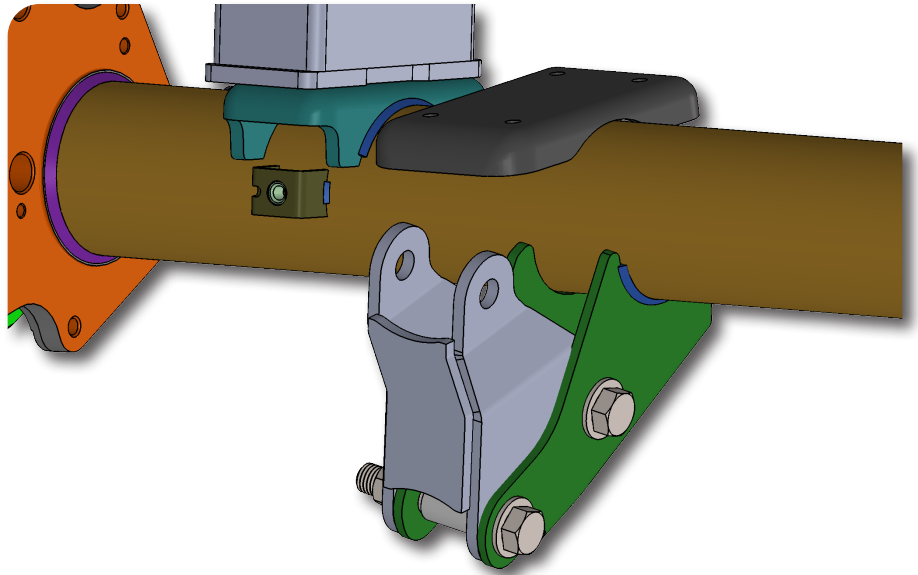

Figure 7
13. **Denali Models (ARC Models) Only:** Install the provided rear shock relocation bracket with the provided sleeves and 9/16" hardware in the factory shock location and the new hole drilled in the previous step. The bracket should offset the factory bracket to the outside of the vehicle (Fig. 7).